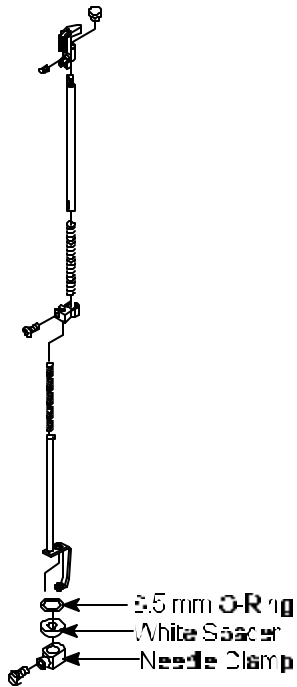

Figure 3
11. While Needle Bar remains lowered **remove** needle clamp, white spacer and 6.5 mm O-ring. See Figure 3.